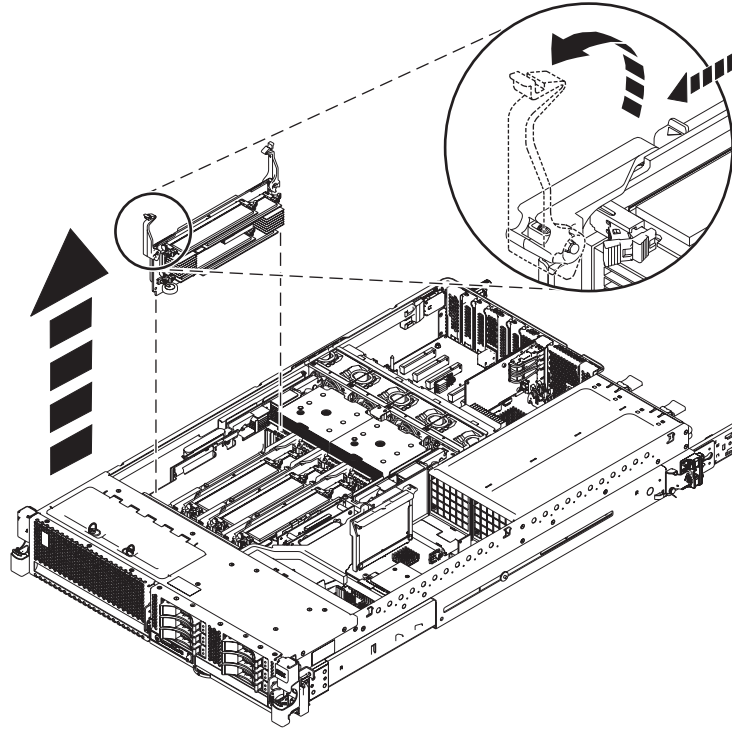

Figure 4. Removing a memory module riser
8. If you are adding memory to an existing riser, remove the memory riser from the system by pulling the locking tabs into the open position and lifting the memory riser out of the system, see Figure 4 on page 11.